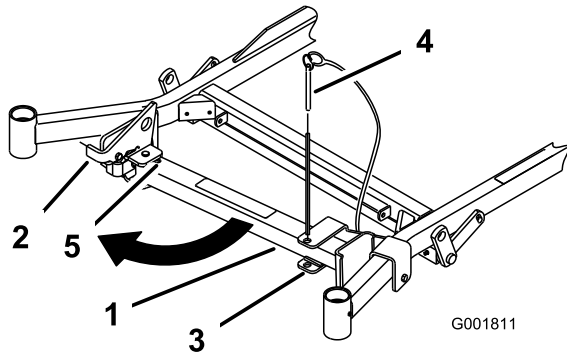
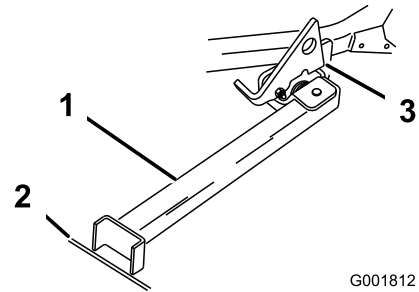

Figure 33
Figure 34
2. Remove the bracket pin (Figure 33).
3. Raise the latch. Swing the stand foot out front and slide stand toward machine, into the bottom of slot (Figure 33 and Figure 34).
6. Set the foot of stand on the ground and rest the latch on the pivot tab (Figure 34).
Note: For best results, place the foot of stand into seams in sidewalks or into the turf (Figure 34).
8. Drive onto the stand. Stop when the latch drops over the tab into the locked position (Figure 34). Once onto the stand, engage the parking brake and turn off the engine.
7. Return the stand to its rest position (Figure 33).